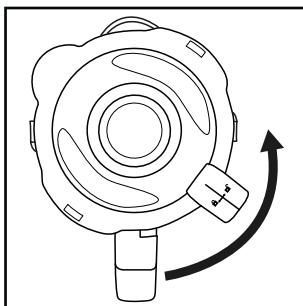

Fig. 1
- 1) Rotate the blender ③ anticlockwise until the arrow ▼ under the blender handle is located above the  position. Remove the blender ③ from the motor block ① in a vertical, upward motion.
- 2) Remove the lid ② by rotating it anticlockwise towards position  (see Fig 1) until you can pull it upwards.
- 3) Fill the blender ③ to at least to the lowest line of the scale ④ and at most to the MAX mark. For optimum results, we recommend the following maximum filling quantities: